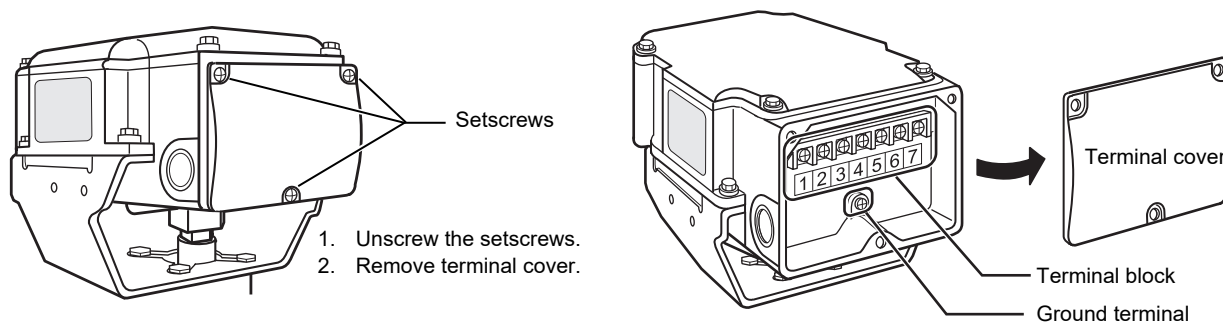
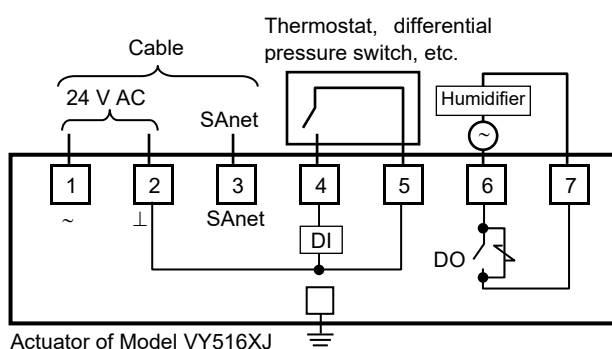

Figure 10. Terminal cover removal
Figure 11. Basic connection example
- 2) Unscrew the 3 setscrews (M4 × 10) of the terminal cover and remove the terminal cover, as shown in Fig. 10.
- 3) Correctly connect the wires to the terminals with M3.5 screw terminal lugs, referring to Fig. 11. To connect a device with over 100 V AC to the sub-DO, be sure to ground the actuator with 100 Ω or lower ground resistance. Refer to Fig. 10 for the location of each terminal.
- 1) Unscrew the setscrews and remove the terminal cover. See Fig. 10 for removing the terminal cover.